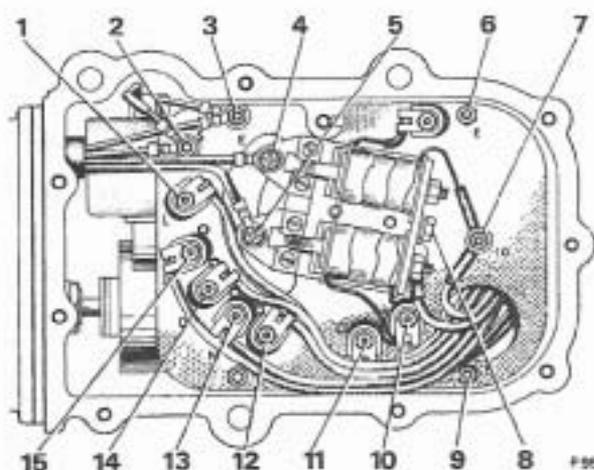

FIG. T153 WIRE CONNECTIONS
34. Remove the tape, then run all the leads to their respective connections (see Fig. T153).
49. Connect the motor feed and the solenoid feed leads (see Fig. T153).